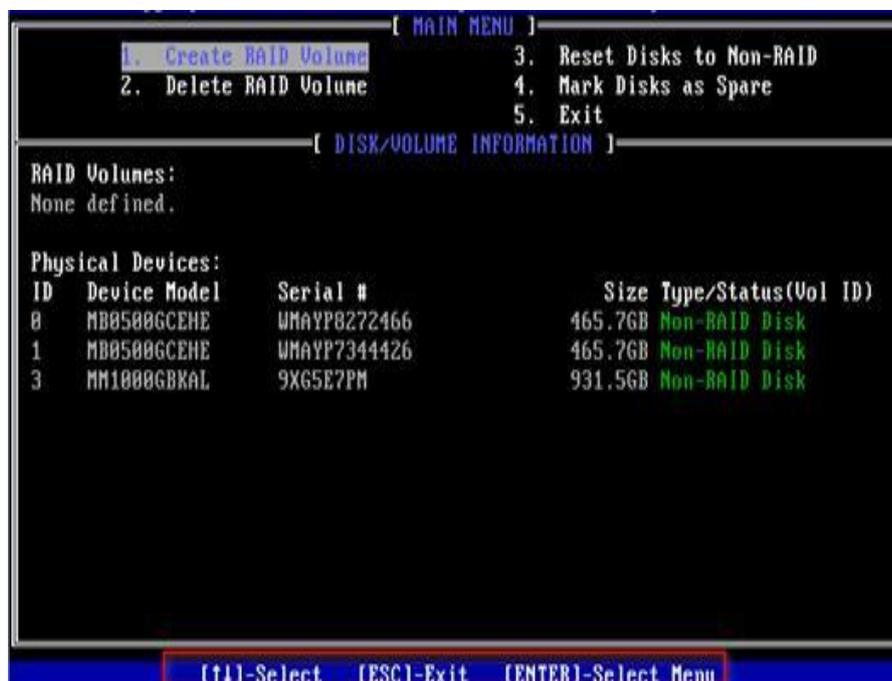

Fig.6.16
- b) Enter the RSTe configuration interface shown in Fig. 6.16 (see table 6.2 for interface description). Please refer to the key operation tips of the interface to navigate and modify settings in the interface.